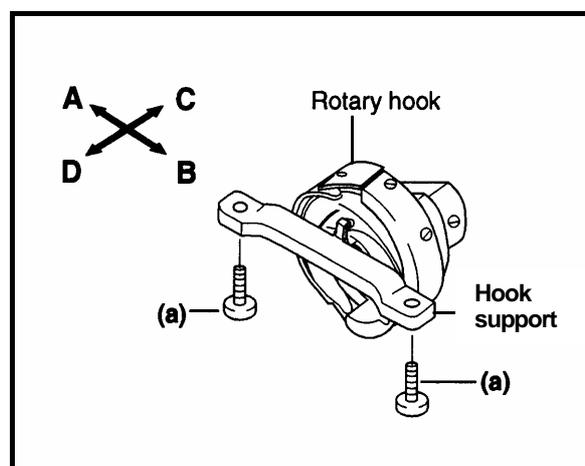

FIG.2
- (4) Retighten the two set screws (a) (Fig.2).
- (5) Attach the needle plate and the table set.